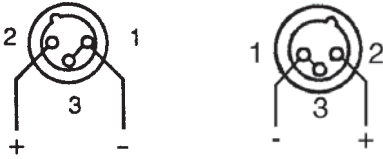

Figure 16. XLR input pin assignment
**Note:** All 502A procedures involve connecting test equipment to the array's input terminals. For the XLR input pin assignment, see Figure 16 below.
**Note:** All 502B procedures require connecting test equipment to the bass box's input terminals. For the XLR input pin assignment, see Figure 16.